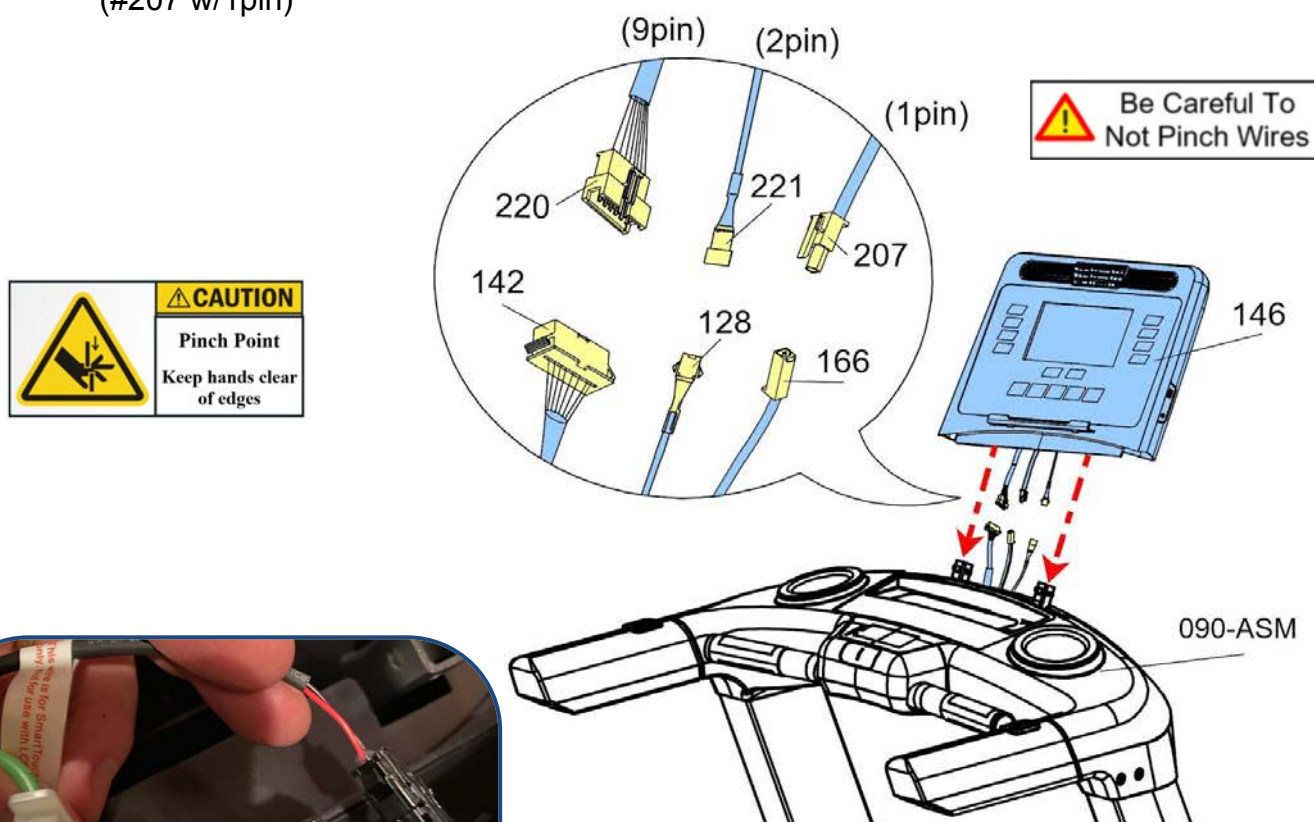

Fig. 13
- b. After all cables are connected, confirm they are fully locked together. Then GENTLY slide the console onto the U-Shaped tubes without damaging any cable or connections. See pic on Fig. 13.